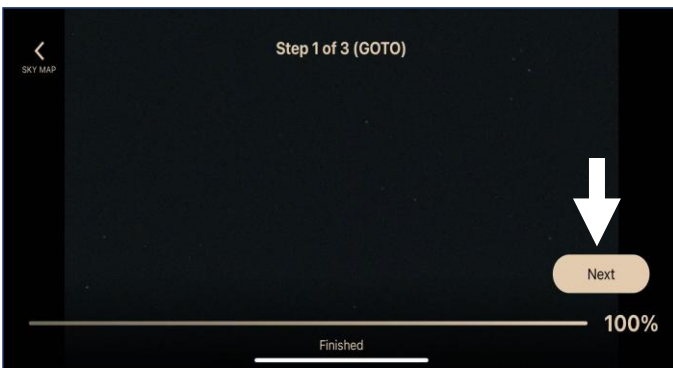

Fig. 4.10
- 4. Confirm:** When the object is centered, tap the Next icon in the bottom-right corner. See Fig. 4.10.